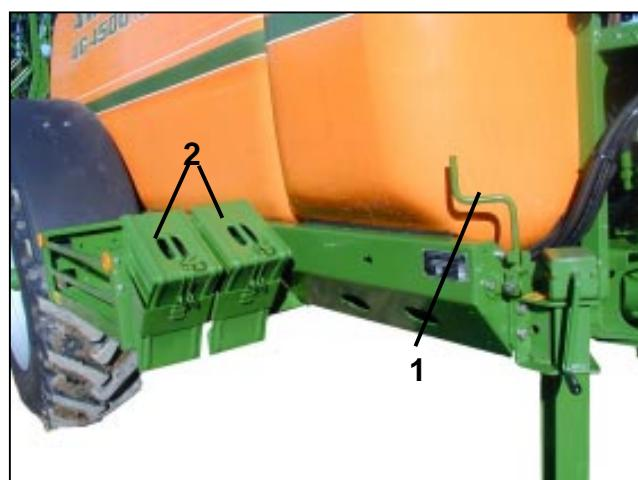

Fig. 5.8
- Release parking brake (Fig. 5.8/1):
- Remove chocks and secure in the pockets (Fig. 5.8/2) on the frame side.